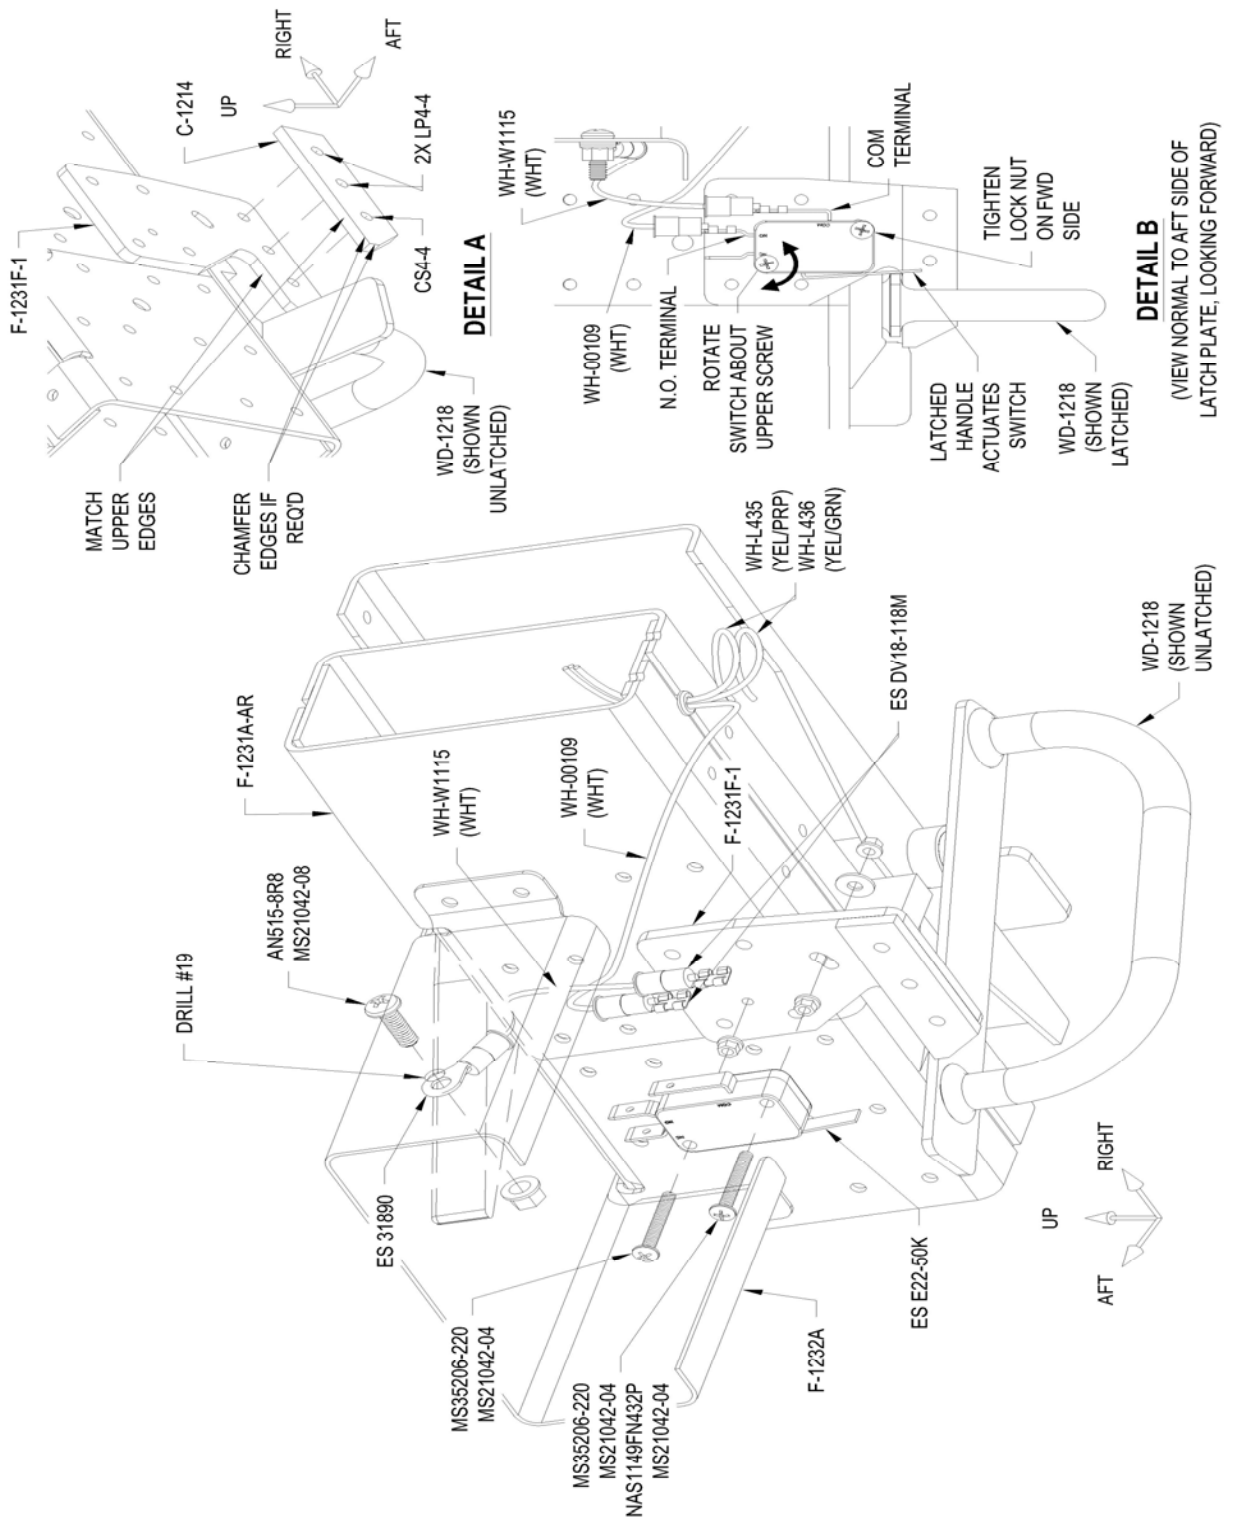

FIGURE 4: SWITCH INSTALLATION
Step 8: Cut a 5" piece from the end of the WH-00109 wire. This will be used in Step 21. Crimp a female spade connector onto the WH-00109 wire (WHT). See Figure 4.
Step 17: Fabricate the C-1214 Latch Block from PS UHMW-125X1/2X2 by match-drilling three #30 holes using the F-1231F-1 Latch Plate arm as a drill guide. Countersink the leftmost hole so that the head of a CS4-4 Blind Rivet will be below flush. Trim the ends of the latch block to match the shape of the latch plate. Blind rivet the latch block to the latch plate as shown in Detail A in Figure 4.
The latch block will need to be chamfered to facilitate latching of the WD-1218 Canopy Latch. See Figure 4, Detail A.
Step 19: Remove/cut the roller from the end of the ES E22-50K Micro Switch arm but leave the switch arm as long as possible. Install the ES E22-50K Micro Switch on the F-1231F-1 Latch Plate as shown in Figure 4. Insert the screws into the micro switch mounting holes and thread on the two lock nuts. Orient the lock nuts so that the flanges will contact the latch plate. **DO NOT** apply more than 3 in.-lb beyond prevailing torque to the two lock nuts against the switch.
Secure the micro switch by tightening the lock nut against the washer on the forward side of the F-1231F-1 Latch Plate. See Figure 4, Detail B.
Step 21: Fabricate the WH-W1115 (WHT) Canopy Latch Switch Ground Wire using the wire cut in Step 8. Strip both ends of the ground wire. Crimp a female spade connector to one end of the ground wire. Crimp a ring terminal to the other end of the ground wire. See Figure 4.
Step 22: Connect the spade connector end of the WH-00109 (WHT) Canopy Latch Switch Terminal Wire to the N.O. (normally open) terminal of the ES E22-50K Micro Switch. See Figure 4, Detail B.
Connect the spade terminal end of the WH-W1115 (WHT) Canopy Latch Switch Ground Wire to the COM (common/ground) terminal of the micro switch. See Figure 4, Detail B.